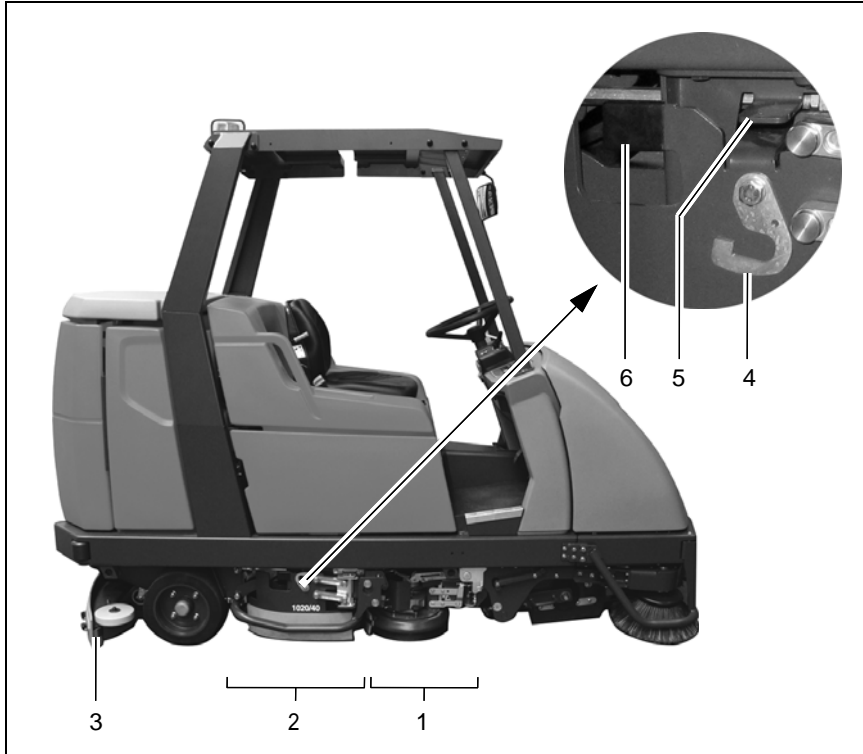

Fig. 13
The pre-sweep/vacuum unit (Fig. 13/4) sweeps and vacuums up dirt in dry areas in front of the scrubbing unit without swirling up dust. In this case, the two side brushes sweep the dirt directly in the track of the cylindrical brush. The side brushes sweep up the dirt from corners and edges so that it is not necessary to drive too close to shelves, walls, machines, etc. and a driving clearance to allow steering can
3.1.2 Scrubbing unit (Fig. 13/2)
(Fig. 13/2)
The deflectors can be raised, if necessary. This is the case for basic cleaning, for example, where the floor only needs to be scrubbed when wet and the solution is not vacuumed up but allowed to soak in instead. To raise the deflector, take hold of the grip (Fig. 13/6), raise it and hook the locking hooks (Fig. 13/4) in the recesses in the grip above it (Fig. 13/5). Proceed in the same way on the other side of the side of the vehicle.
Side scrubbing unit (Fig. 13/1)
3.1.3 Squeegee (Fig. 13/3)